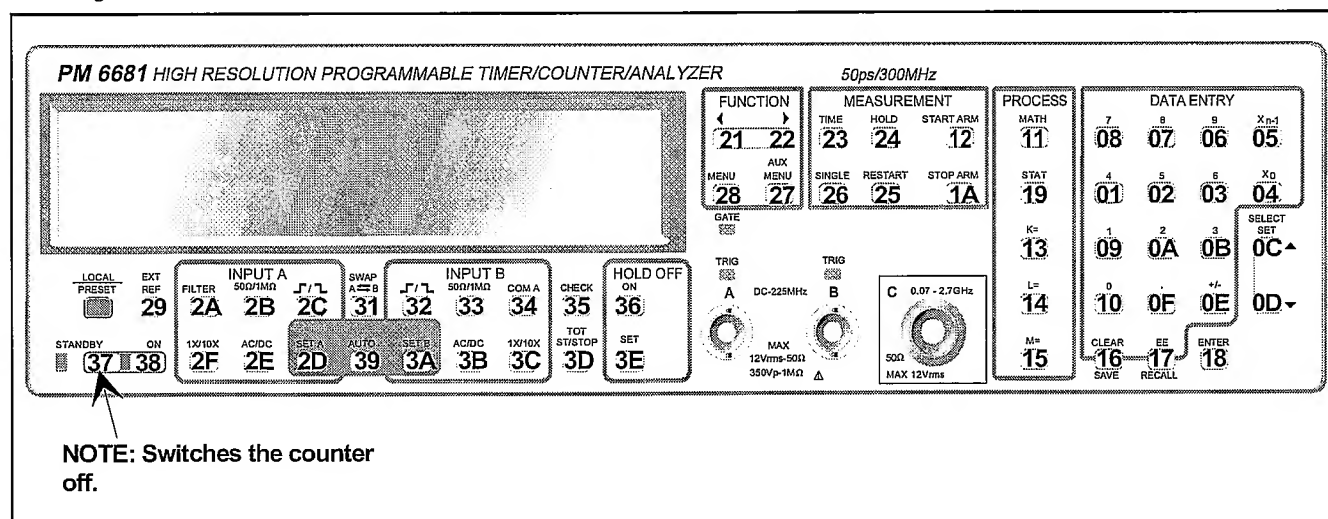

Figure 5-17 Codes for each key, Test 5.
- Press a pushbutton on the front panel and check that the displayed code are as in the Figure 5-17.